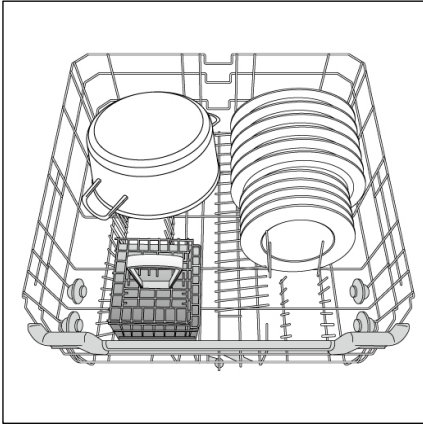

Figure 4
- **AQUASTOP (fig. 4):**
A standard daily load is represented in fig. 4.
An example of the positioning of the Cutlery rack is shown in figure 4.